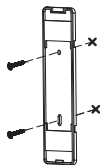

fig. 2
3. Drill the holes and insert the wall plugs (if needed) in the holes. (fig. 2)